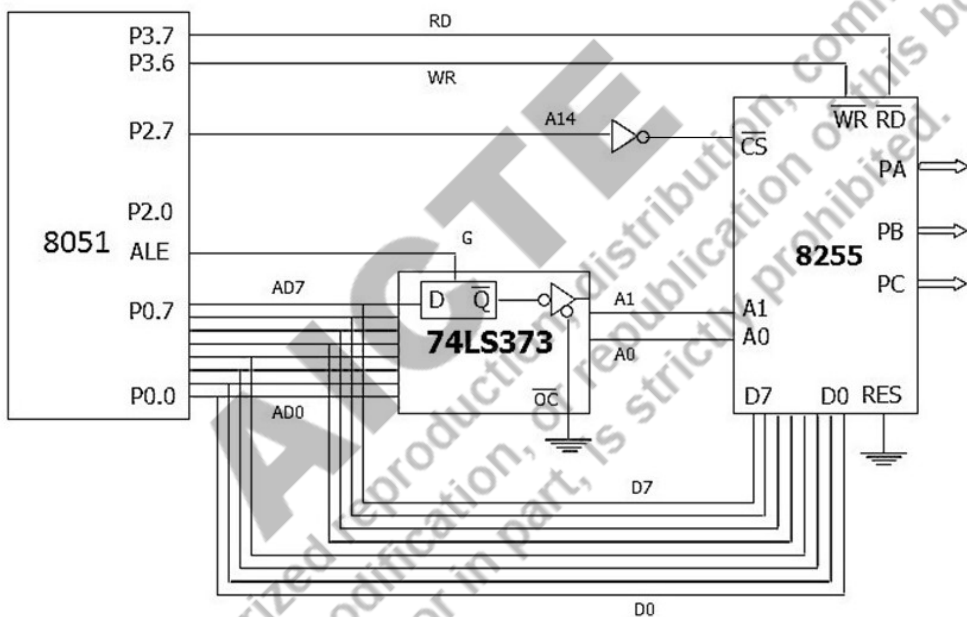

Figure 4.11: 8051 interfacing with 8255 [Mazidi, 2013]
5. **CLK IN (Pin 4) & CLK R:** The CLK IN pin is an input that connects to an external clock source when an external clock is used for timing. However, the ADC0804 features an internal clock generator. To take advantage of the internal clock generator (also referred to as self-clocking), the CLK IN and CLK R pins are connected to a capacitor and a resistor, as shown in Figure 4.11. In this setup, the clock frequency is determined by the following equation: